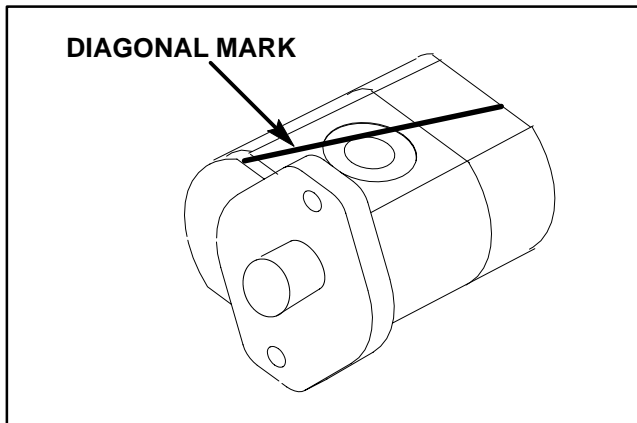

Figure 81
3. Use a marker to make a **diagonal** mark across the front flange, body and rear cover for assembly purposes (Fig. 81).